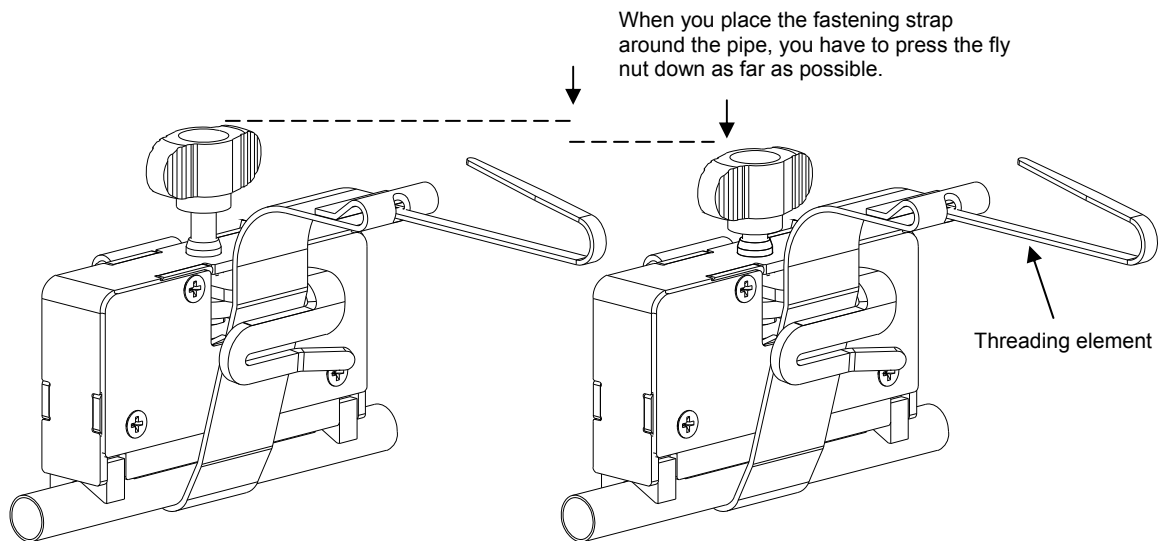

Fig. 7.5: Attaching the fastening strap to the pipe
- Place the transducer on the pipe and press the fly nut firmly (see Fig. 7.5). Put the fastening strap around the pipe. Use the threading element at the end of the strap as threading aid.